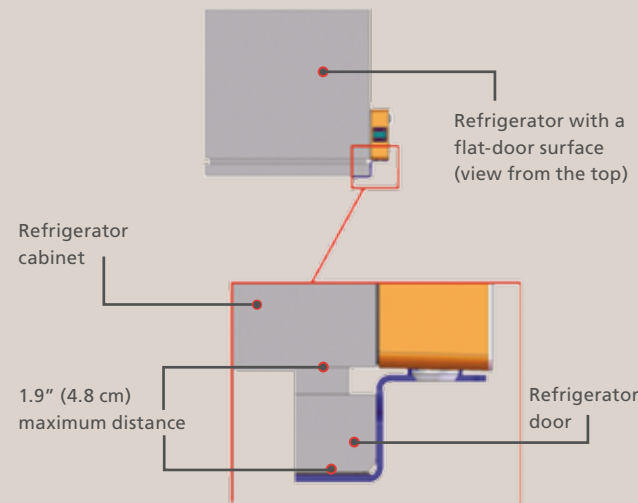

Figure 3. Distance from the refrigerator door to the refrigerator cabinet, flat-door surface
Figures 3 and 4 show top views of the gap between the outside face of the refrigerator door and the refrigerator cabinet. In order for Pyxis SMART Remote Manager or Pyxis Remote Manager to function properly, the maximum distance between these two surfaces must not exceed the following dimensions:
- 1.9" (4.8 cm) for refrigerators with flat-door surfaces (see Figure 3)